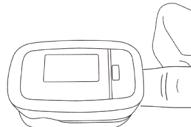

Figure 5 Put finger in position.
- C. Let the patient's finger put into the rubber cushions of the clip (make sure the finger is in the right position), and then clip the finger as shown in Figure 5.
- B. The finger should be placed properly (see the attached illustration of this manual, Figure 5), or else it may cause inaccurate measurement.